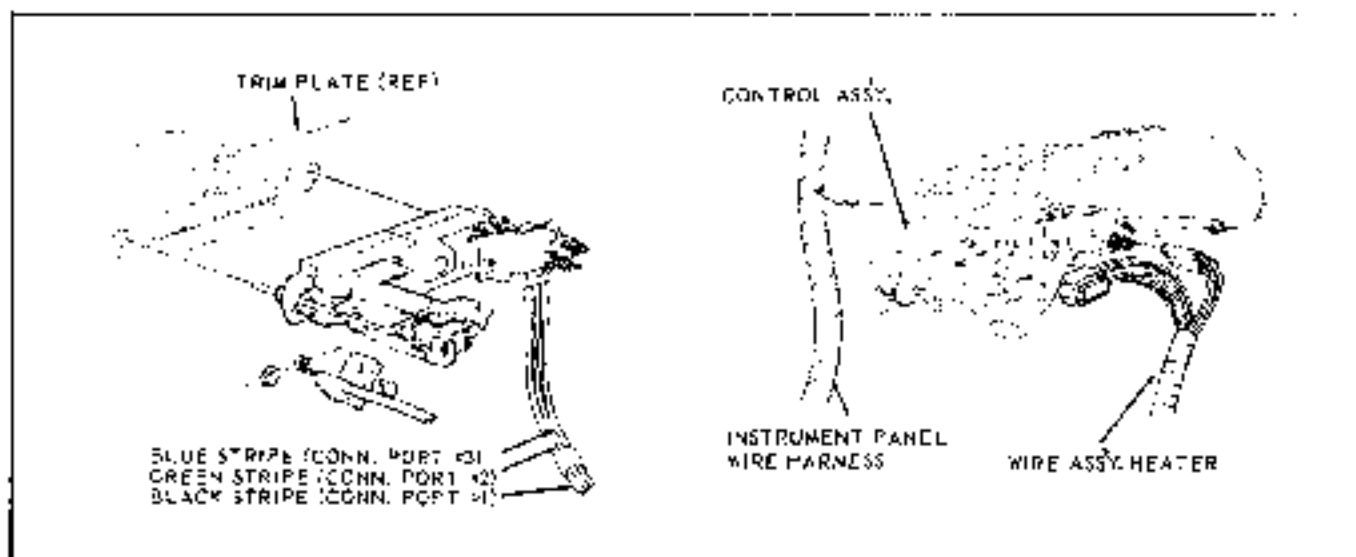

Fig. 1-4 Control Panel Connection—Partia
SELECT AND VACUUM VALVE SWITCH REPLACEMENT (Fig. 1-4)
2. Disconnect temperature control cable at the heater control switch (Fig. 1-4).